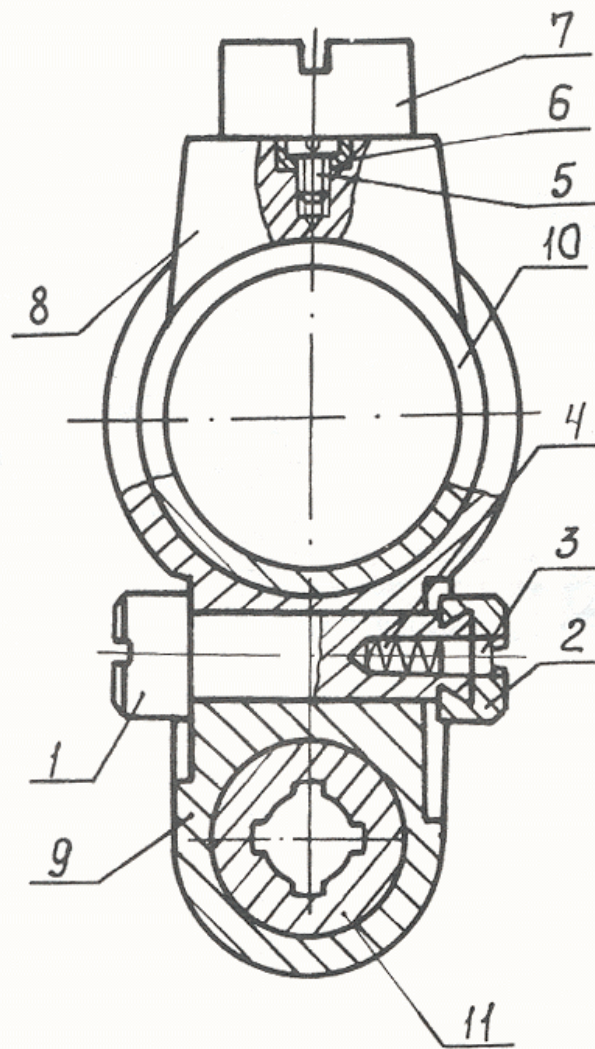

Fig. 2
• 2) **Fig 2:** Now push the top lever to the right and hold. Do not force the top lever.